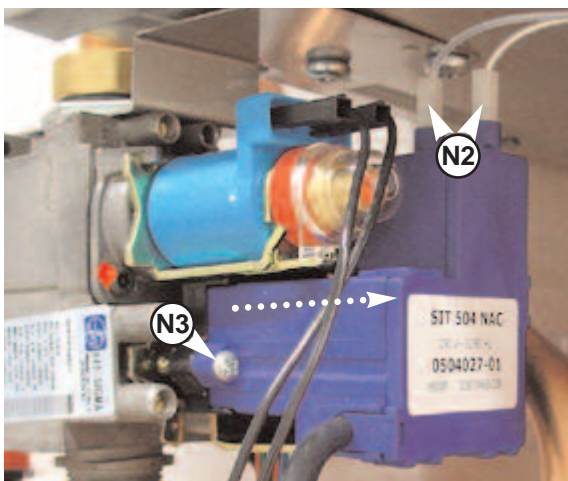

Fig. 18.43
4. Disconnect the electrodes wires “N2” and remove the screw “N3” (see Fig. 18.43) ;
5. Remove the spark generator by pulling it toward the right (see Fig. 18.43);
2. Remove the spark generator by only removing the screw “N3” and pull it toward the right as in Fig. 18.43;